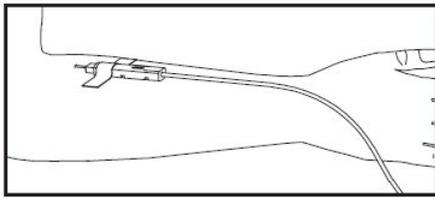

Figure 1
8. When good blood flow is established, slide the DONORCARE™ Needle Guard over the needle hub into the engaged position. Leave the front third of the needle hub exposed for access. Stabilize the front of the needle guard to arm with tape. (see Figure 1)